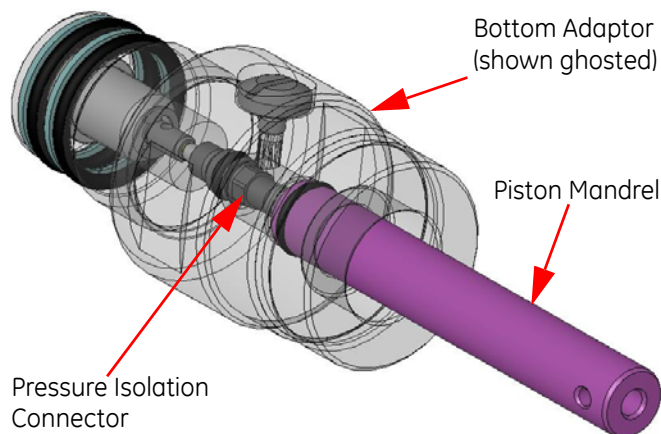

Figure 5-10 Piston Mandrel installed in the Bottom Adaptor
- 3 Make sure these components are installed in the Bottom Adaptor (*item 10*):
- The Lower Connector (*item 2*) in the lower end of the Bottom Adaptor. Refer to Section 5.4.2, Installation of the Lower Connector Assembly.
- Pressure Isolation Connector (*item 32*) complete with a new O-ring (*P/N: 99008*).
- Centralizing Peek Isolator (*item 5*).
- 4 Apply a thin film of Dow Corning® DC200® Oil, 100CST (*P/N: 415574*) to the new O-Ring (*item 27*) and to the groove in the Piston Mandrel (*item 3*).
- 6 With reference to Figure 5-10, install fully the Piston Mandrel (complete with the new O-Ring - *item 27*) in the upper end of the Bottom Adaptor (*item 10*).